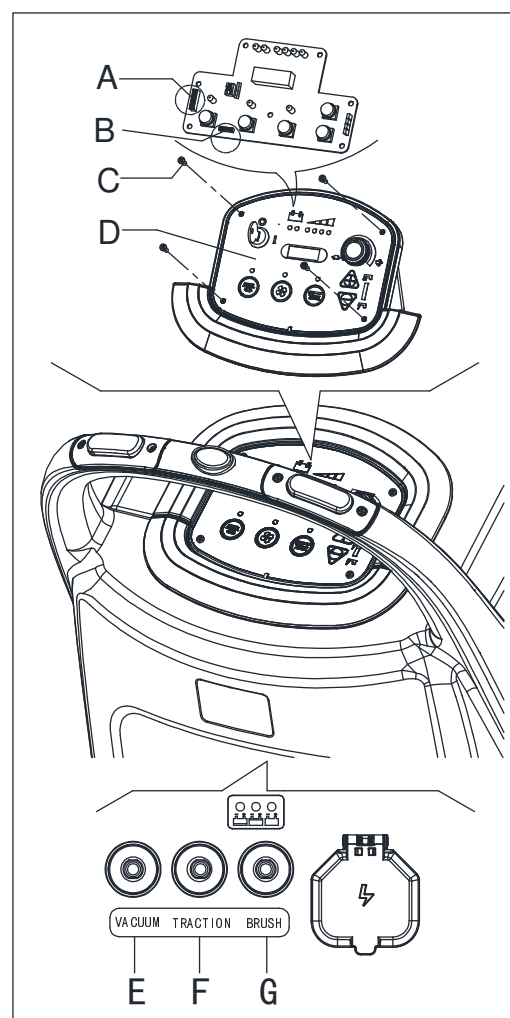

Figure 24
3. Remove the screws(C .Figure 24) on control panel (D), then turn over the PCB to find the fuse (A, B, Figure 24).